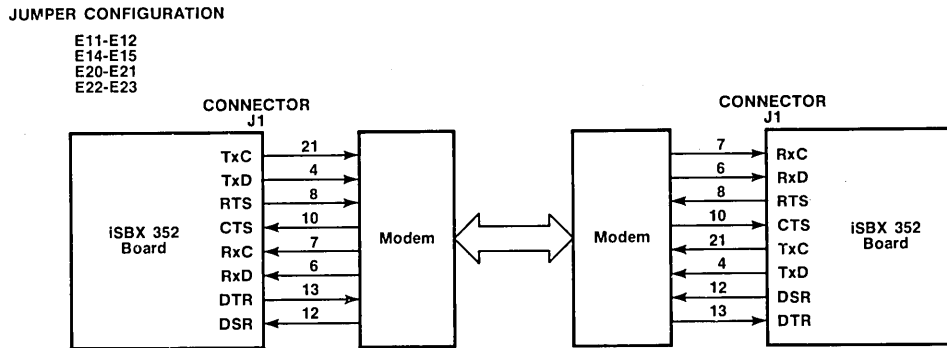

Figure 2-2. Synchronous Point-to-Point Modem Interface Configuration Example-RS232C
Some data link configuration examples for the iSBX 352 Bit Serial Communication Multimodule Board are shown in Figures 2-2, 2-3, 2-4, 2-5, and 2-6, and described in the following paragraphs. In addition to the configuration information, some of the communications terms are defined in Table 2-9. More information on the various types of data links is available in the *IBM Synchronous Data Link Control, General Information* manual as listed in the preface.
In addition to the basic data link configuring options, the iSBX 352 board allows the option of selecting either self-clocked or synchronous clocked data transfer operation. The following five paragraphs provide an overview and a picture for five of the many data link configurations, including; synchronous point-to-point operating mode, a self-clocking point-to-point operating mode, a synchronous multidrop operating mode (with modems), a self-clocking operating mode, and a self-clocking SDLC Loop Network configuration. Each of these configurations is described in the following paragraphs and shown in Figures 2-2, 2-3, 2-4, 2-5, and 2-6.
**2-12. SYNCHRONOUS MODE INTERFACE WITH MODEM.** Figure 2-2 shows the synchronous mode interface operation of the iSBX 352 board for an RS232C interface. The RS422/449 application would include two conductors for each interface signal; one for the positive and one for the negative signal polarity. The RS232C application, on the other hand, requires only one conductor per interface signal. The figure describes connection of a modem configuration; a non-modem configuration is also available, if required.